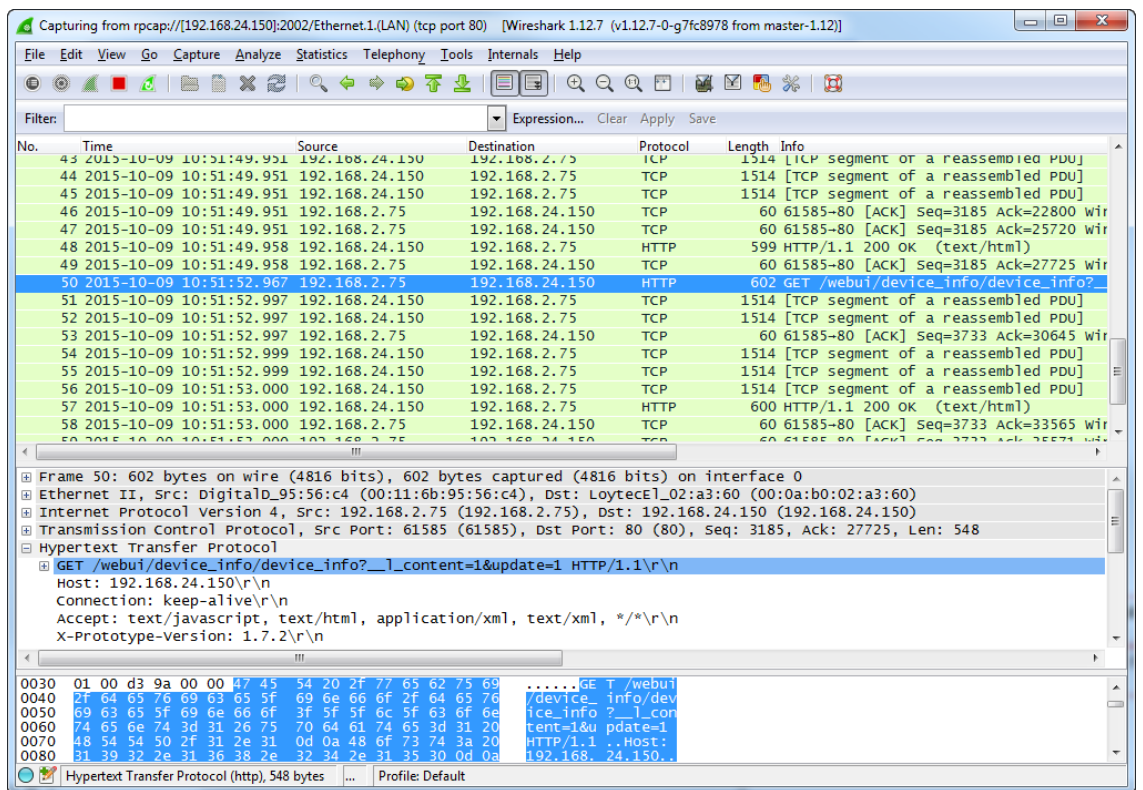

Figure 165: Example Ethernet remote capture in progress.
3. Wireshark will attempt to establish a connection to the device and, if successful, start displaying packets. An example capture is shown in Figure 165.